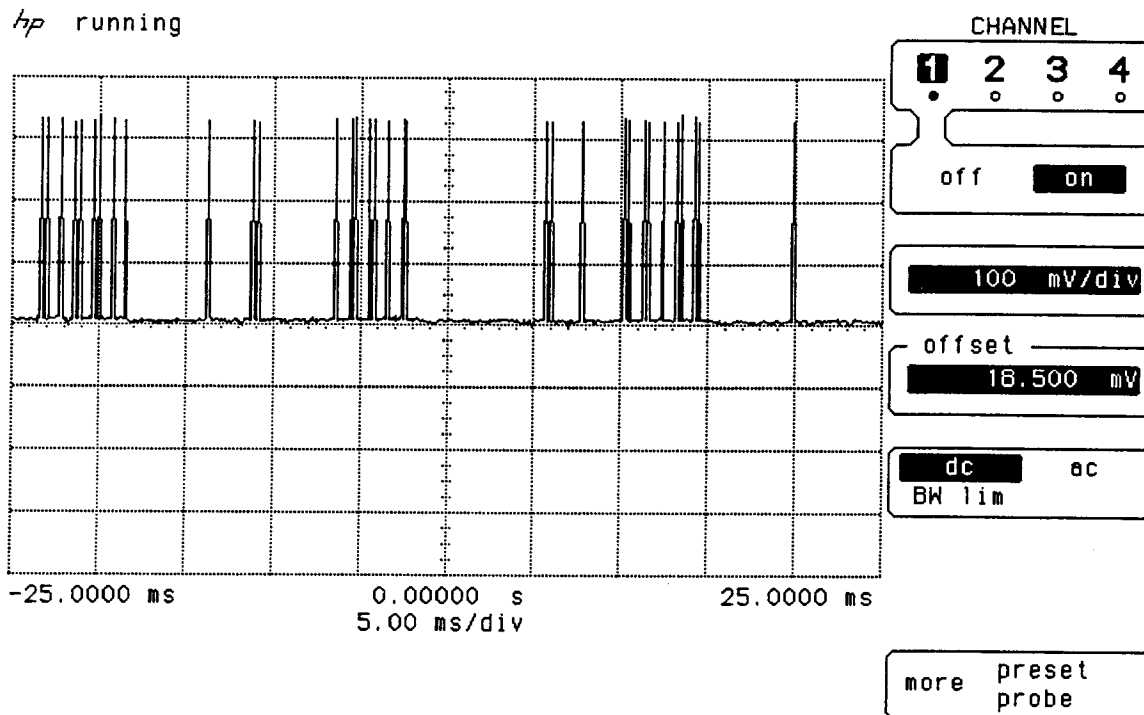

Figure 4-15. Half-Bright Video Signal (With CRT Diagnostic Running)
7. Verify that the CRT video signals (Half-bright, Full-bright) are similar to Figures 4-15 and 4-16.